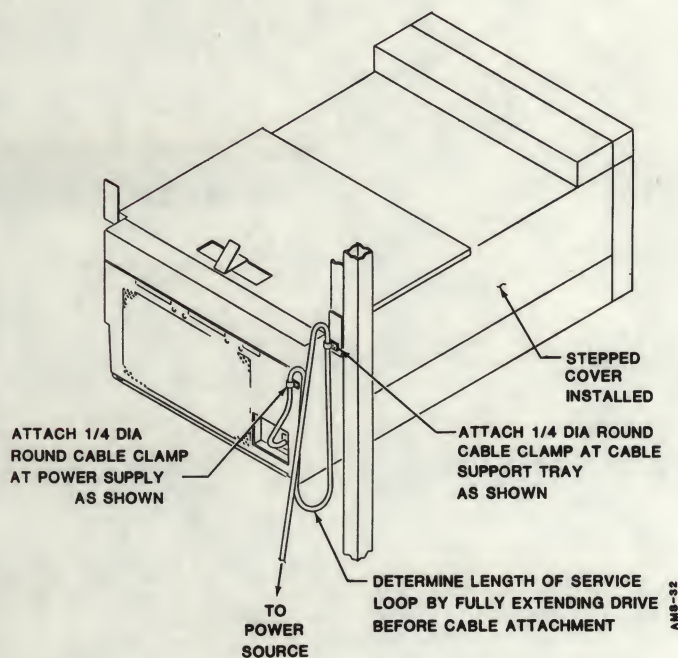

Figure 7-12. AC Power Cord Installation Diagram
7. Attach the disk drive AC cord to the disk drive at the top right corner of the power supply as shown in Figure 7-12. Use the existing screw to attach the cable clamp. Attach the other end of the AC cord to the cable support tray mounting screw. Allow enough service loop to fully extend the disk drive on its slides. Check that socket outlets are located near the cabinet and are easily accessible.
8. Install "plated" stepped cover to top of disk drive (see Figure 7-12).